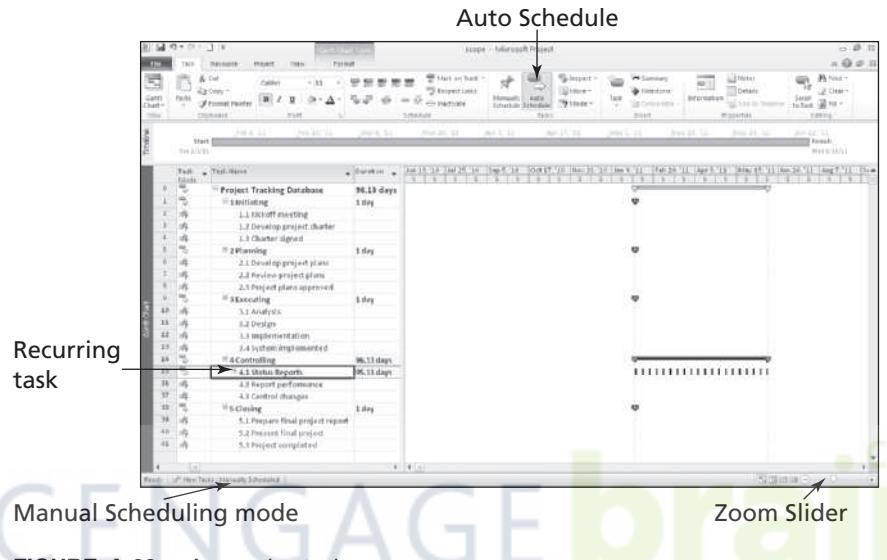

FIGURE A-23 A recurring task
4. Adjust the columns shown and timescale. Move the split bar so that the entire Finish column displays. Click the **Zoom Out** button [–] (minus sign on the Zoom Slider in the lower right of your screen) three times (or as many as needed) to display the entire Gantt chart on your screen. Notice that the recurring task appears on the appropriate dates on the Gantt chart, as shown in Figure A-23.